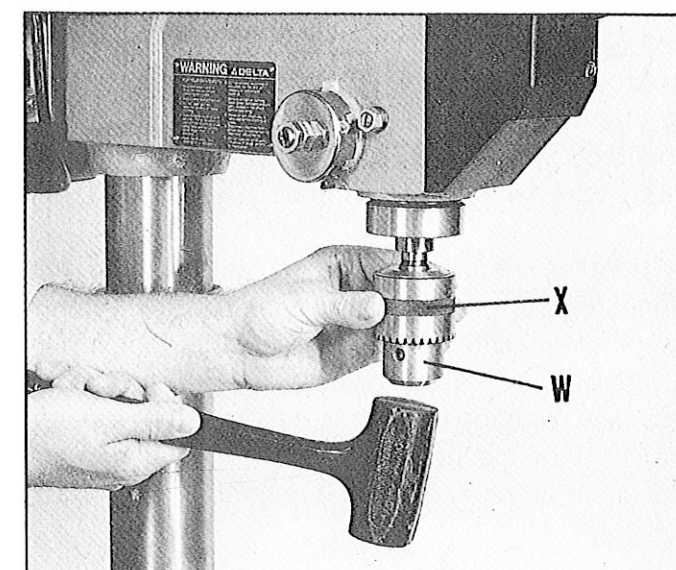

Fig 14
16. Open the chuck jaws as wide as possible by turning chuck sleeve (X) Fig. 14.
17. Holding the chuck (W) Fig. 14, carefully drive the chuck onto spindle adapter with a block of wood and conventional hammer, or a mallet as shown. This will seat the chuck (W) properly on the spindle adapter (U). IMPORTANT: To avoid damage to the chuck, do not drive the chuck directly onto the spindle adapter with a metal hammer.